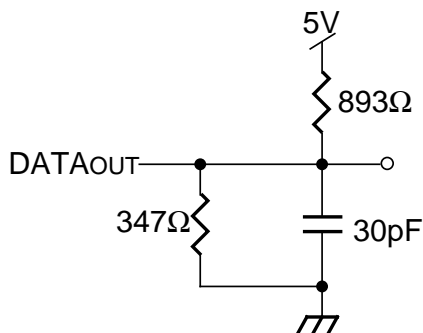

Figure 1. Output Test Load
Output Load	See Figure 1
1. Transition is measured  $\pm 200\text{mV}$  from low or high impedance voltage with the Output Test Load (Figures 1 and 2).